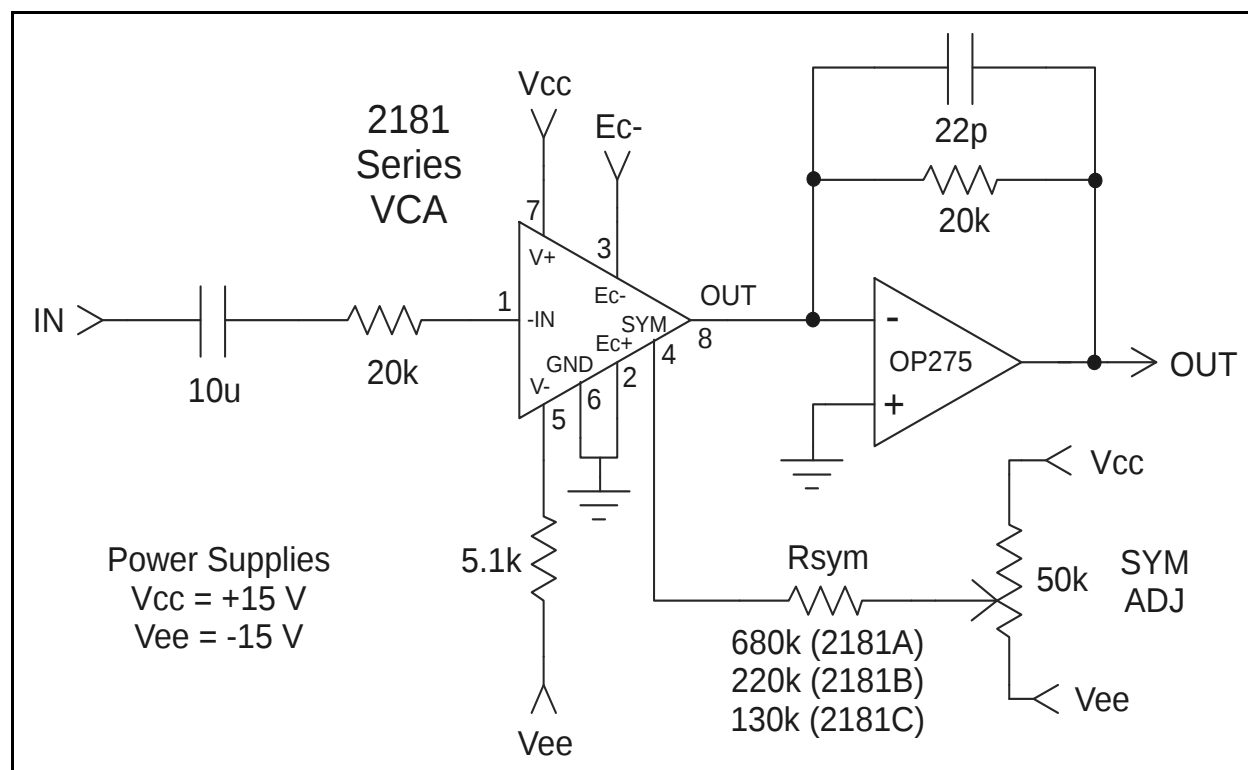
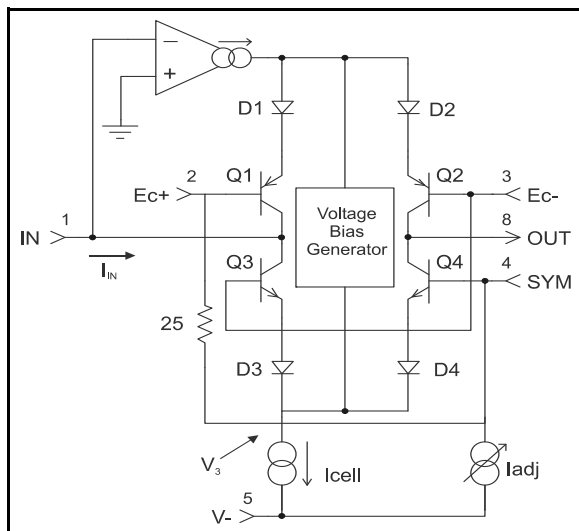
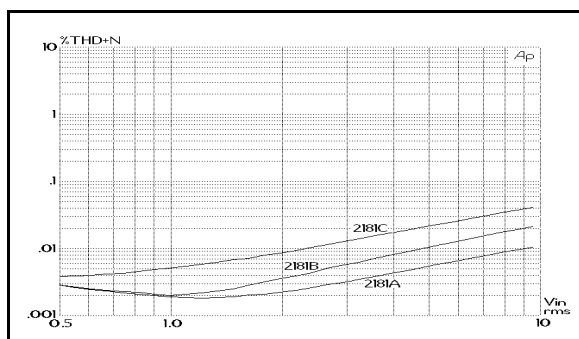
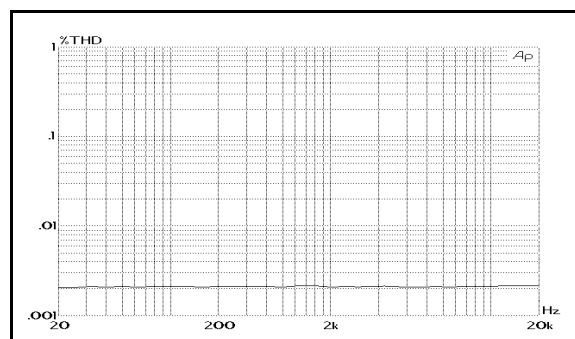

Figure 2. Typical Application Circuit
Figure 5. Simplified Internal Circuit Diagram
Figure 10. 1 kHz THD+Noise vs. Input Level, 0dB Gain
Figure 13. 2181A THD+N vs Frequency, 0dB gain 1kHz 1V
2. Unless otherwise noted, $T_A = 25^\circ\text{C}$, $V_{CC} = +15\text{V}$, $V_{EE} = -15\text{V}$. Test circuit as shown in Figure 2. SYM ADJ is adjusted for minimum THD at 1 V, 1 kHz, $E_{C-} = -E_{C+} = 0$ V.
Figure 5 presents a considerably simplified internal circuit diagram of the IC. The ac input signal current flows in pin 1, the input pin. An internal operational transconductance amplifier (OTA) works to maintain pin 1 at a virtual ground potential by driving the emitters of Q1 and (through the Voltage Bias Generator) Q3. Q3/D3 and Q1/D1 act to log the input current, producing a voltage, V₃, which represents the bipolar logarithm of the input current. (The voltage at the junction of D1 and D2 is the same as V₃, but shifted by four forward V_{be} drops.)
In normal operation, the output current is converted to a voltage via an opamp-based I-V converter, as shown in Figure 2, where the conversion ratio is determined by the feedback resistor connected between the output and inverting input. The signal path through the VCA and the output opamp is non-inverting.
The 2181 current consumption is determined by the resistor between pin 5 (V-) and the negative supply voltage (V_{EE}). Typically, with 15V supplies, the resistor is 5.1 kΩ, which provides approximately 2.4 mA. This current is split into two paths: 570 μA is used for biasing the IC, and the remainder becomes I_{CELL} as shown in Figure 5. I_{CELL} is further
The 2181-Series VCAs are intended to be adjusted for minimum distortion by applying a small variable offset voltage to pin 4, the SYM pin. Note that there is a 25 Ω resistor internal to the 2181 between pin 4 and pin 2. As shown in Figure 2, Page 3, the usual method of applying this offset is to use the internal 25 Ω resistor along with a larger value resistor to form a voltage divider connected to the wiper of a trim pot across the supply rails.
The 2181-Series VCA design, fabrication and testing ensure extremely good audio performance when used as recommended. The 2181 maintains low distortion over a wide range of gain, cut and signal levels. Figures 10 through 12 show typical distortion performance for representative samples of each grade of the part. At or near unity gain, the 2181 behaves much like a good opamp, with low distortion over the entire audio band. Figure 13 shows typical THD for a 2181A over frequency at 0 dB gain, with a 1 V input signal, while Figure 14 details the harmonic content of the distortion in a typical A-grade part.
The Input pin (pin 1) is a virtual ground with negative feedback provided internally (see Figure 5, Page 4). The input resistor (shown as 20 k Ω in Figure 2, Page 3) should be scaled to convert the available ac input voltage to a current within the linear range of the device. Generally, peak input currents should be kept under 1 mA for best distortion performance.
Refer to Figures 10 through 12 to see how distortion varies with signal level for the three parts in the 2181 Series for 0 dB, +15 dB and -15 dB gain. The circuit of Figure 2, Page 3 was used to generate these curves.
A designer may trade off noise for distortion by decreasing the 20 k Ω current-to-voltage converting resistors used at the input and output in Figure 2, Page 3. For every dB these resistor values are decreased, the voltage noise at the output of the OP275 is reduced by one dB. For example, with 10 k Ω resistors, the output noise floor drops to -104 dBV (typical) at 0 dB gain — a 6 dB reduction in noise because 10 k Ω is 1/2 of (6 dB lower than) 20 k Ω .
The Output pin (pin 8) is intended to be connected to a virtual ground node, so that current flowing in it may be converted to a voltage (see Figures 2 & 15). Choose the external opamp for good audio performance. The feedback resistor should be chosen based on the desired current-to-voltage conversion constant. Since the input resistor determines the voltage-to-current conversion at the input,
The SYM pin (pin 4) is actually a sort of additional positive-sense control port. It is provided to allow V_{be} mismatches in the core transistors to be adjusted after packaging and installation in the circuit board. It should only be used for this purpose. Connect pin 4 only to a high-impedance source as shown in Figures 2 and 15.